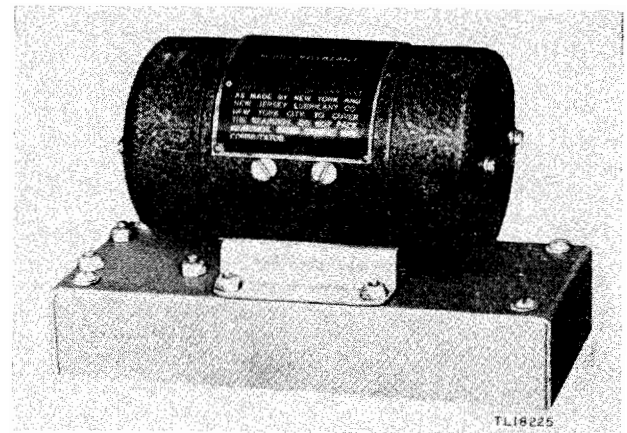
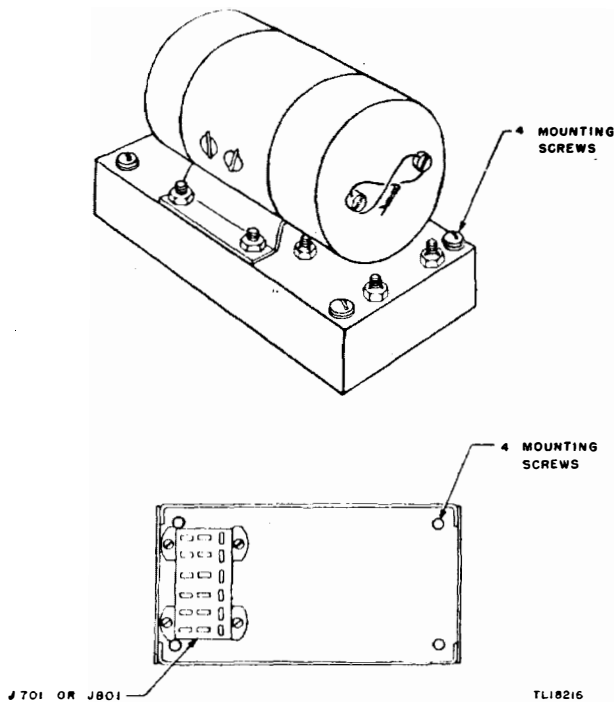

Figure 6. Dynamotor DM-34-(*) or Dynamotor DM-36-(*)
Figure 8. Dynamotor DM-34-(*) or Dynamotor DM-36-(*)—location of mounting bolts.
b. **DYNAMOTOR REMOVAL.** Release the four mounting bolts in the corners of the dynamotor mounting plate (fig. 8) and lift the dynamotor (figs. 6 and 7) from the receiver.
d. DYNAMOTOR. Replace the dynamotor, making sure dynamotor jack J701 (or J801) mates properly with dynamotor plug PG2 on the receiver chassis. Fasten the dynamotor mounting bolts at the four corners of the dynamotor mounting plate. (See fig. 8.)